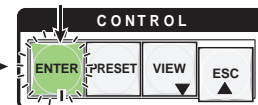

Figure 16. Replacing Ties — an Example
3. Press and release the output 1 button. This button flashes the same color as the input button, and the Enter button flashes green. The other tied buttons (3 and 6 in this example) remain lit (see figure 16).